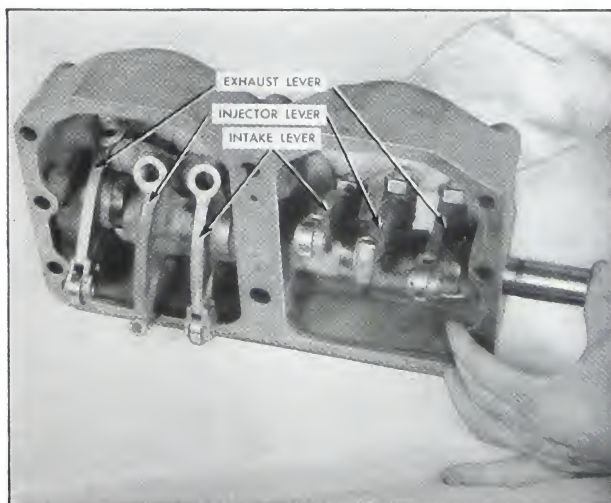

Fig. 4-12. Upper rocker housing
5. Assemble the levers in the housing and push the rocker lever shaft in place. (Fig. 4-12). Use grooveless shaft in NH series assembly.